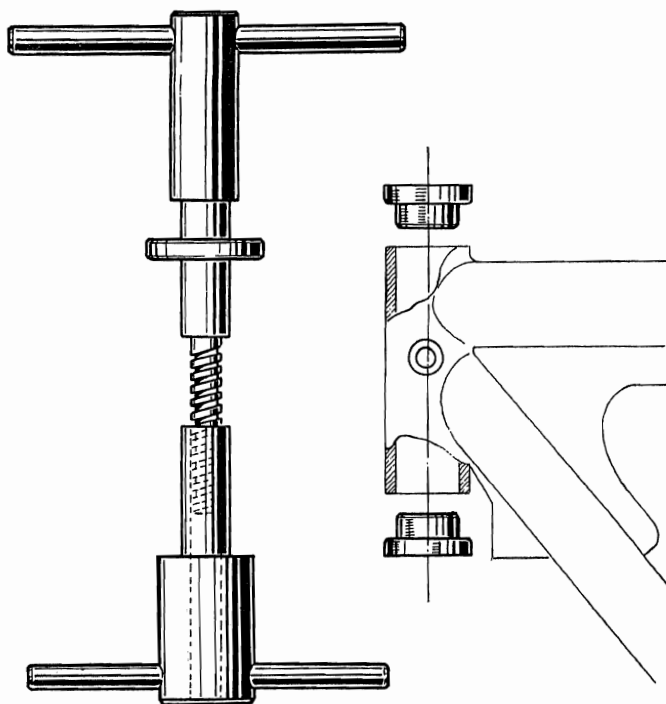

Fig. 118
Using tool (118) secure the 2 ball races on the frame (see fig. 118 and 119).